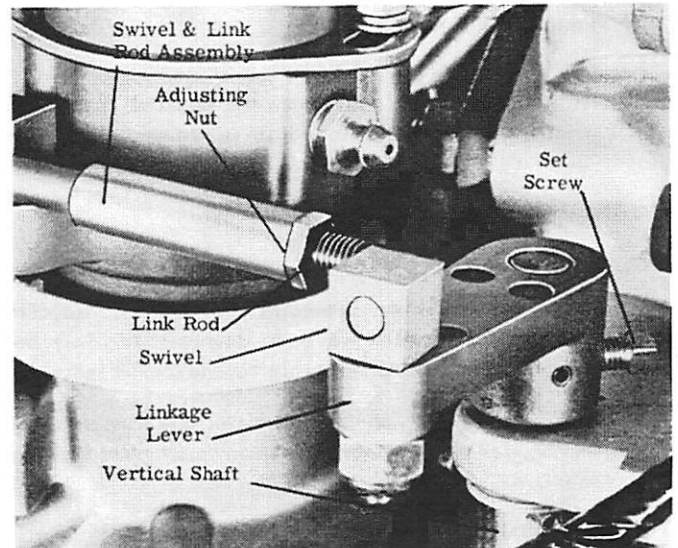

Figure 9. Vertical Shaft Adjustment
2. Adjust length of link between vertical shaft and distributor actuator to obtain a speed of 2400-to-3000 RPM. (Figure 9)